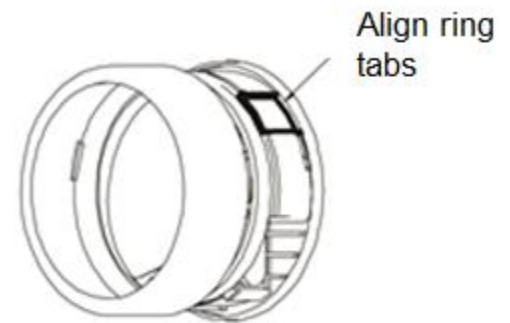

Fig. 4
4. There are three alignment tabs on the inside of the housing ring and three corresponding grooves on the entrypad base. Locate the housing ring and slide it onto the base. See Fig.4.